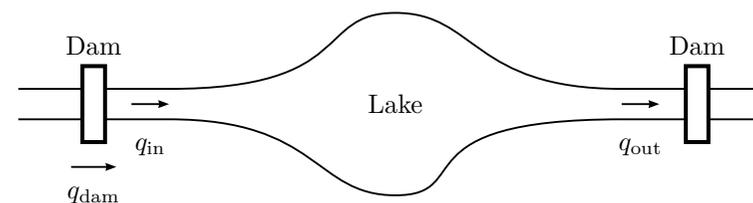

Figure 3.13a
3.13 We want to control the level in a lake by controlling the flow using flood gates, see Figure 3.13a. The relationship between changes in the level of the lake,  $h_\Delta$ , and changes in the flows,  $q_{in,\Delta}$  and  $q_{out,\Delta}$ , is given by